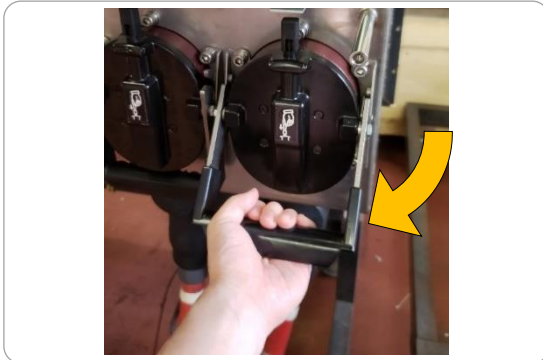

Figure 32. Lever operation (②)
- ① Open the fuse compartment cover according to 8.2.2.
- ② Pull up the lever of fuse holder. [Figure 32]